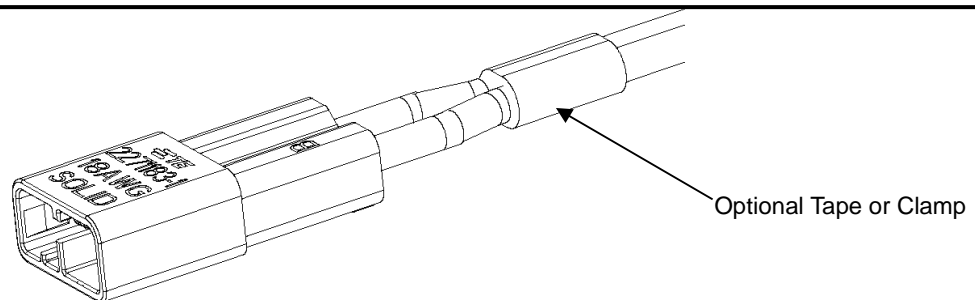

Figure 4
4. Apply optional approved flammability rated tape or clamp to organize the wire. See Figure 4.